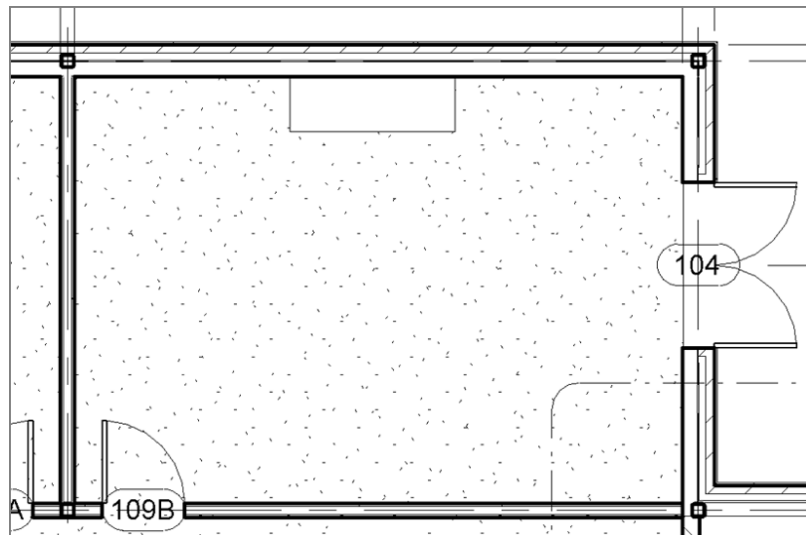

FIGURE 9.49: Placing the credenza desk into the first office
2. Zoom in to the northeast corner office, as shown in Figure 9.49.
8. Place the credenza desk into the room, as shown near the top of Figure 9.49.